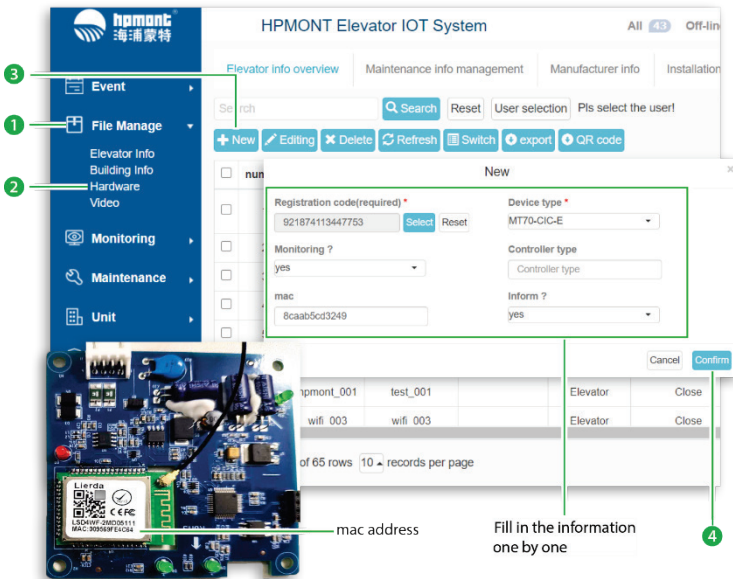

Figure 5-3 Adding WiFi modules to elevator IoT systems
- Login to the elevator IoT system, click "File Management" ①, "Hardware" ②, click "New" ③ in the interface, fill in the information in the window that opens, and click "Confirm" ④ when finished, as shown in Figure 5-3.